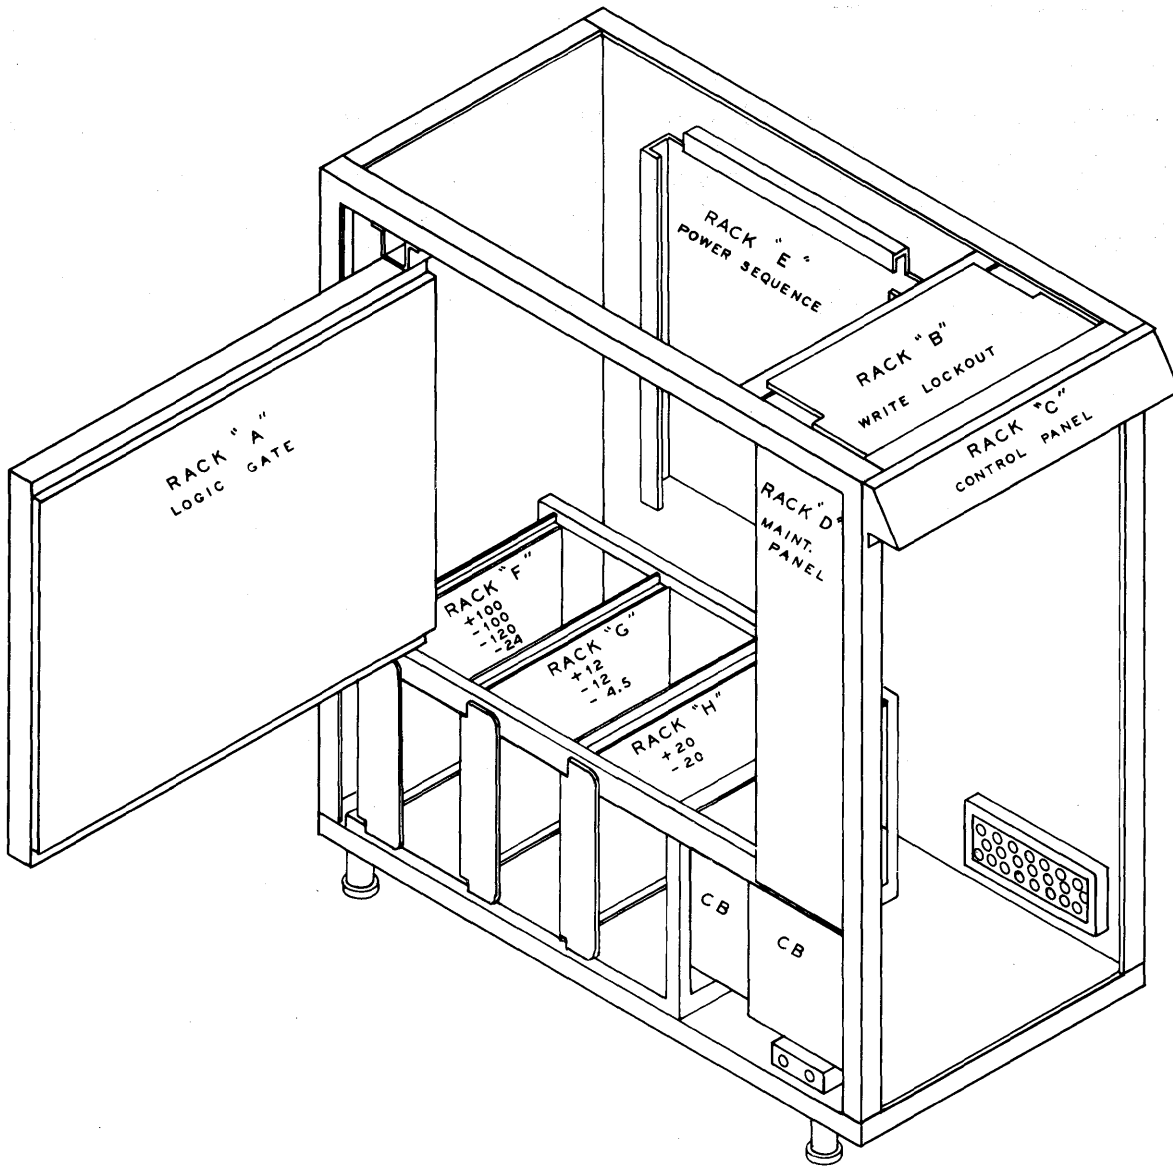

FIGURE 6.9-1
1. ELECTRONICS UNIT DA RACK LOCATOR - Figure 6.9-1